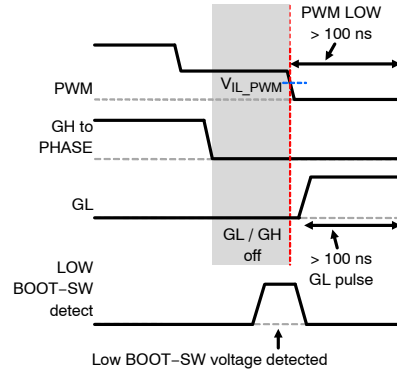
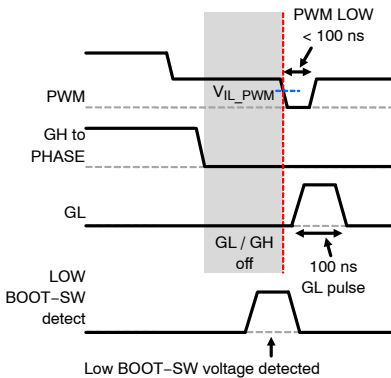

Figure 34. Low BOOT-SW Voltage Detected and PWM from 3-State to LOW for more than 100 ns
Figure 35. Low BOOT-SW voltage Detected and PWM from 3-State to LOW for Less than 100 ns
- If the part exits 3-state with a low BOOT-SW voltage condition and the controller commands PWM = LOW for 100 ns or more, the SPS follows the PWM input. If PWM = LOW for less than 100 ns, GL remains on for 100 ns then follows the PWM input (see Figure 34 and Figure 35).